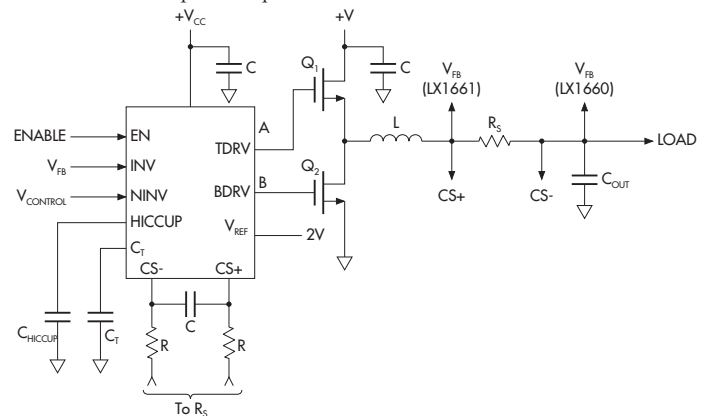
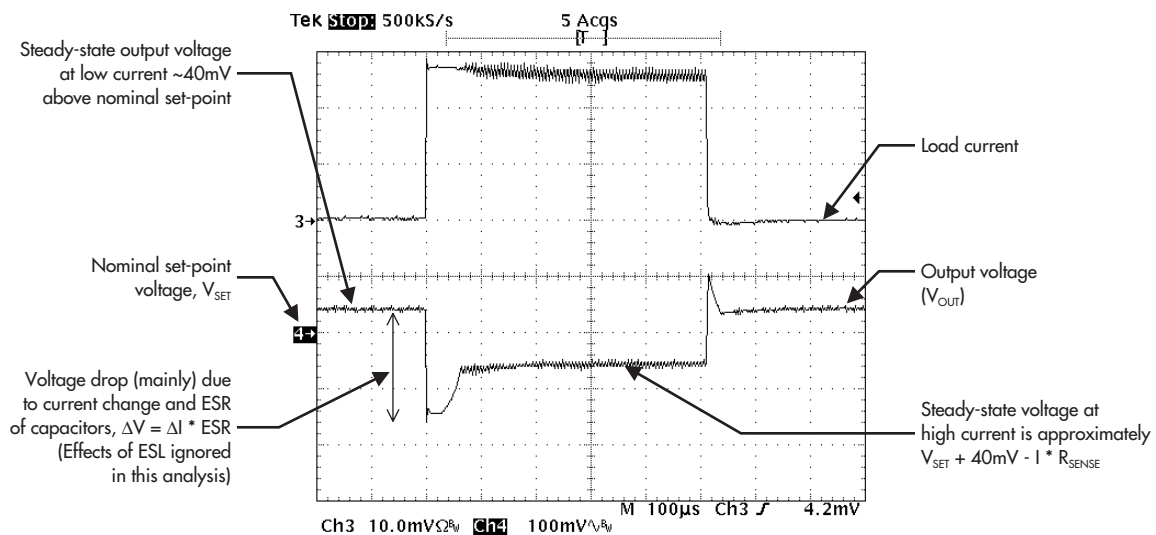

Figure 2 — LX1660 / 1661 General Circuit Configuration
Figure 3 — Adaptive Voltage Positioning
**LX1660 Only:** The INV pin is connected to the negative side of the sense resistor (i.e. the actual voltage supplied to the load) — See Figure 2. The LX1660 will achieve a high DC set-point accuracy, since it regulates at the load, but it will have greater transient voltage over- and under-shoots than the LX1661.
**LX1661 Only:** The INV pin is connected to the positive side of the sense resistor (between the inductor and the sense resistor) — See Figure 2. The LX1661 has a 40mV offset to the NINV pin to enhance transient response, as shown in Figure 3 below.
Typically, the positioning voltage is 40mV, using the LX1661, and the transient tolerance is 100mV, resulting in a  $V_{EX}$  of 140mV (See Figure 3). The LX1660 does not have the positioning voltage offset, so  $V_{EX}$  is 100mV maximum.